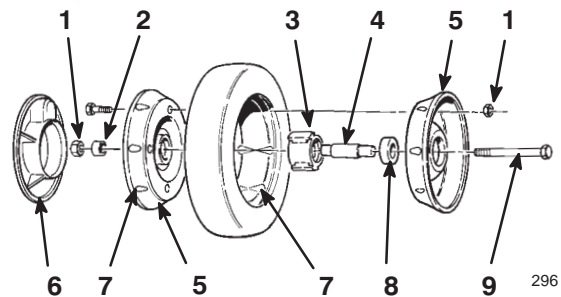

Figure 30
3. Remove the bolt, the wheel spacer, and the locknut mounting the wheel to the pivot arm (Fig. 30).
4. Separate the wheel halves from the tire by removing four bolts and four locknuts (Fig. 30).
Note: If you remove the bearings from the bearing/hub assembly, remove them by pressing on the bearing spacer (Fig. 30).
1. Position the tire onto one wheel half, aligning the lugs on each (Fig. 30).
2. Place the bearing/hub assembly into the center hole of the wheel half. Ensure that the legs of the hub are positioned over the flange of the hole (Fig. 30).
3. Place the other wheel half onto the bearing/hub assembly, aligning the wheel and the tire lugs and the mounting holes (Fig. 30).
4. Using two 1/4–20 x 1.50 in. (6 x 38 mm) fully threaded bolts and non-locking nuts, loosely secure the wheel halves together. Mount the bolts in the opposing holes (Fig. 30).
5. Check the alignment of all parts and tighten the bolts, alternating from side to side for a uniform fit, until the wheel halves are drawn together (Fig. 30).
6. Install the two bolts and two locknuts previously removed in the remaining holes in the wheel halves and tighten. Remove the two long bolts and replace them with two bolts and two locknuts (Fig. 30).
7. Install the wheel to the pivot arm with the bolts, a spacer, and a locknut. Ensure that the spacer is positioned between the wheel hub and the pivot arm (Fig. 30).